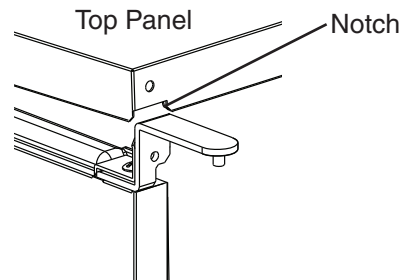

**Fig. 12**
- c) Remove hinge (A)-right and the bracket from the right side of the appliance. Set aside hinge (A)-right; it is not needed. Remove the top brace from the left side. Fasten hinge (A)-left and the bracket to the left side and the top brace to the right side. See Fig. 12.